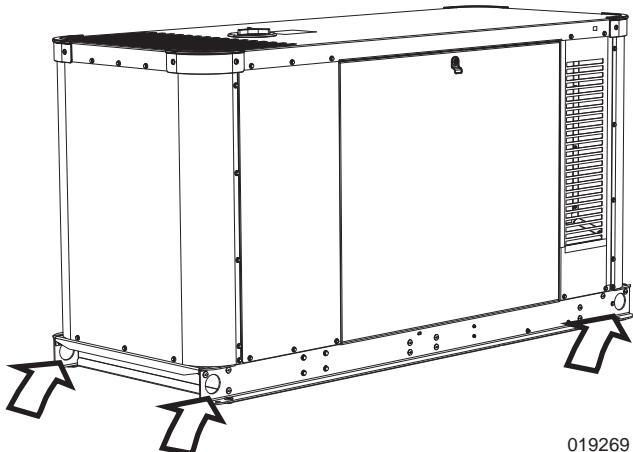

Figure 2-1. Lifting Points (Four Places)
See **Figure 2-1**. Installation drawings show lifting points for rigging and lifting purposes. Always attach lifting and rigging devices at designated points only. Do not use lifting points of the engine or alternator to move generator.
- See **Figure 2-1**. Keep a minimum clear working space around each side of the generator to